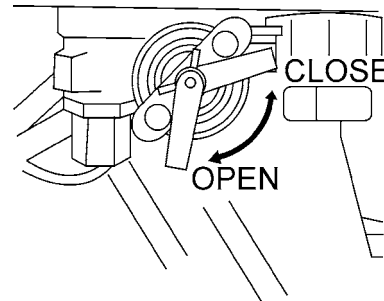

**Figure 12. Handle Adjustment**
1. Loosen the butterfly screw (Figure 12).